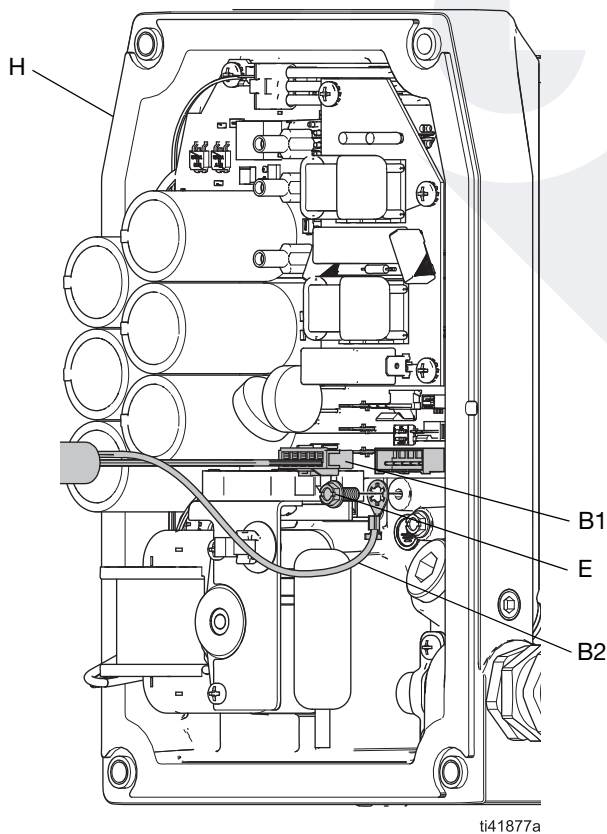

FIG. 5: I/O Cable Wire and I/O Cable Ground Wire Connection
- n. Securely tighten the clamp top fasteners (D).
- 5. Install the I/O cable ground wire (B2) and ground fastener (E) to the hole in the control housing (H). Securely tighten. See **Connect to the Control Board**, page 8.
- 6. Connect the plug on the I/O cable (B1) to the socket on the control board. See FIG. 5.
- 7. Install the control cover (F). See your related motor manual. See **Related Manuals**, page 2.
1. Install the I/O cable ground wire (B2) and ground fastener (E) to the hole in the control housing (H). Securely tighten. See FIG. 5.
2. Connect the plug on the I/O cable (B1) to the socket on the control board. See FIG. 5.